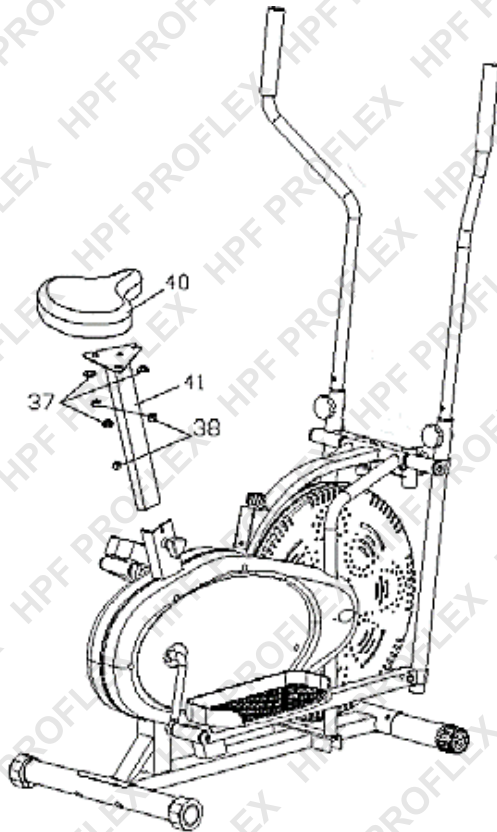

Figure 5
- Remove the washer (No. 37) and nut (No. 38) from the saddle (No. 40). Attach the saddle and saddle post (No. 41) as shown in Figure 5. Re-insert and tighten the bolts.
- Put the plastic insert (No. 39) over the saddle post then insert the saddle post into the main frame as shown in Figure 5. Insert and tighten the knob (No. 42).